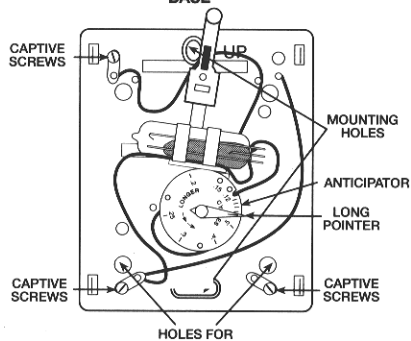

FIGURE 3
- ☐ Remove Front Cover of new thermostat by inserting a finger in the side of the thermostat and gently prying away each corner. Remove Base, Figure 2, from Sub-Base, Figure 3, by loosening three captive screws.
- ☐ Place Sub-Base, Figure 3, on wallplate over wall opening. Mark wall with pencil at mounting holes as shown in Figure 2. Now lay wallplate and Sub-Base to the side.
- ☐ Place Base, Figure 3, over Sub-Base and attach by tightening three captive screws.